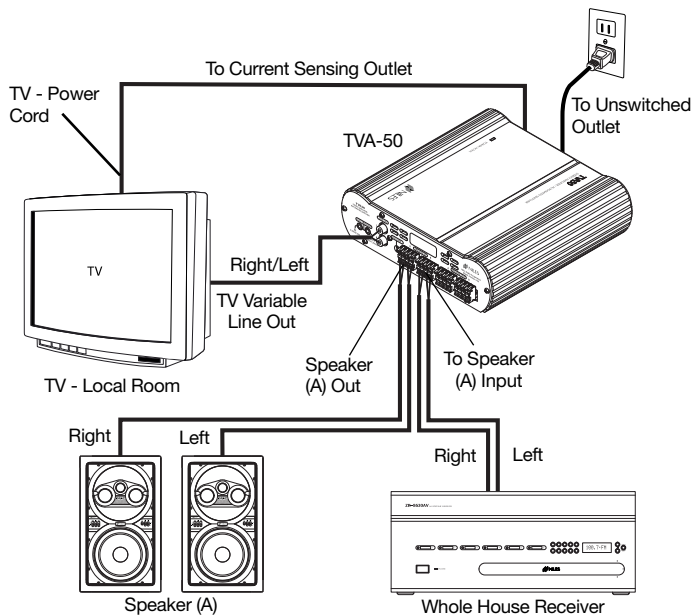

Figure 3
1. Figure 3 shows a typical application for switching one pair of speakers to a local source using current sensing. Refer to the other system applications for switching multiple speaker pairs, and use of the Trigger IN/OUT. If your application is different from those diagrams, use appropriate system design software or draw it out on paper. Make note of all parts and components needed for installation, TVA50, speakers, wire, etc.